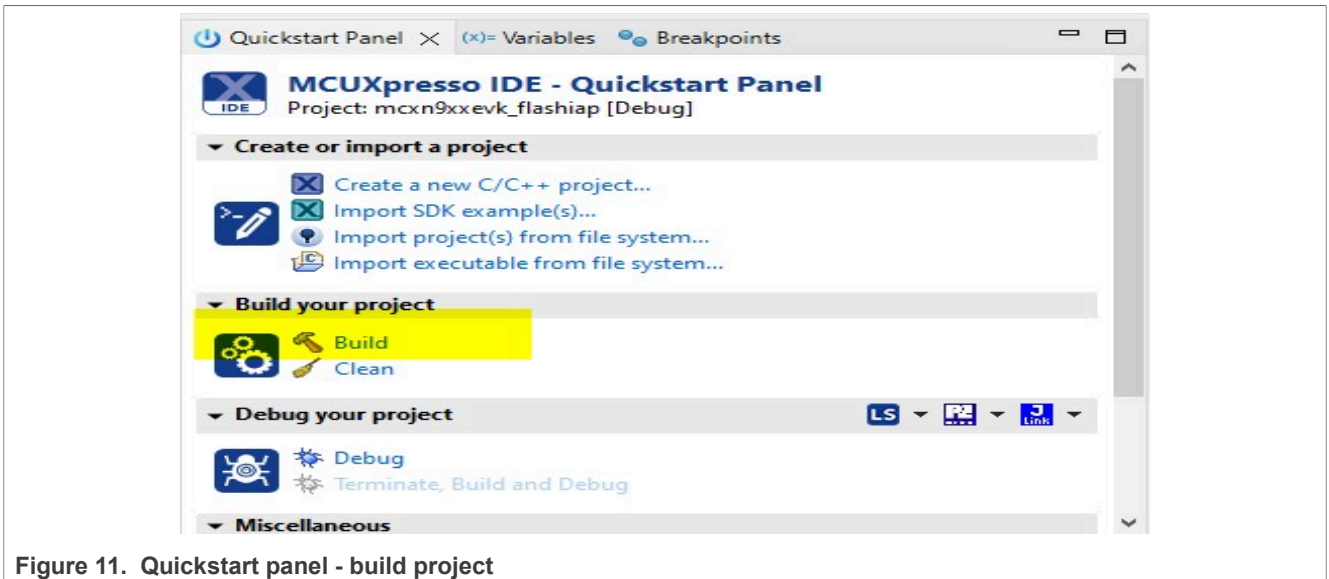

Figure 11. Quickstart panel - build project
7. Click **Build** in Quickstart Panel, see Figure 11.